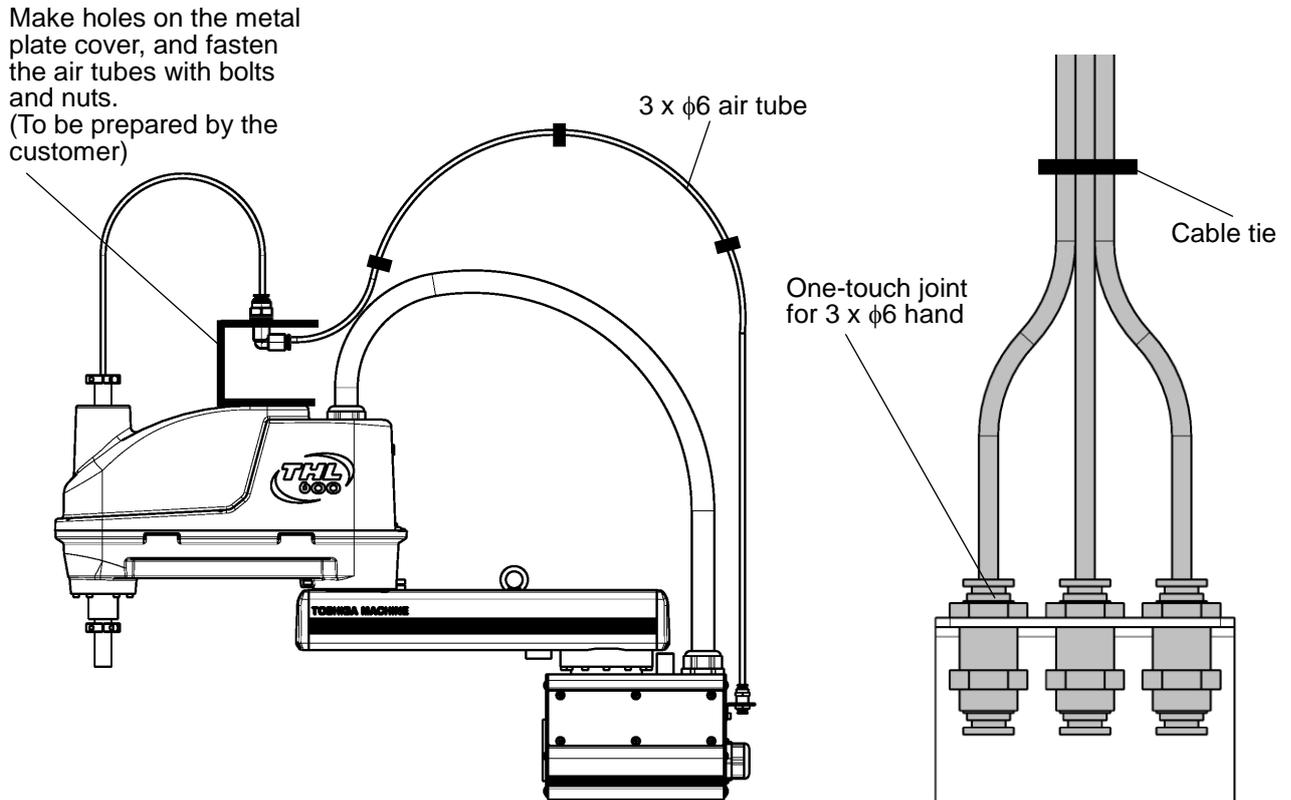

Fig. 17.2 Tool air piping wiring example (THL500, THL600 and THL700)
Fig. 17.2 shows an installation example of tool air piping for your reference.
- Please be aware that Fig. 17.2 shows a piping example, and it does not guarantee the air tubes and their accessories to be free from damage.